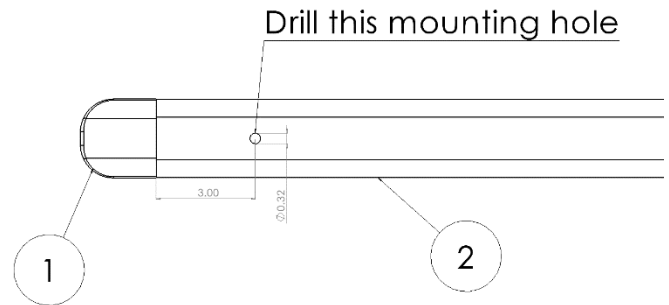

Figure 3.7
You will need to drill mounting holes into the side arms, to do this begin by sliding the pivot casting (1) into one end of the side arm (2) so that the arm and casting are flush with each other. Looking at the back of the pivot casting, if there is not already a hole in the casting, choose a place on the side arm and drill straight through both the side arm and pivot casting using a 11/32" drill bit. Otherwise, mark the location of the hole on the side arm's thinner side wall and drill this hole out. See Figure 3.7 for an example of what this should look like.